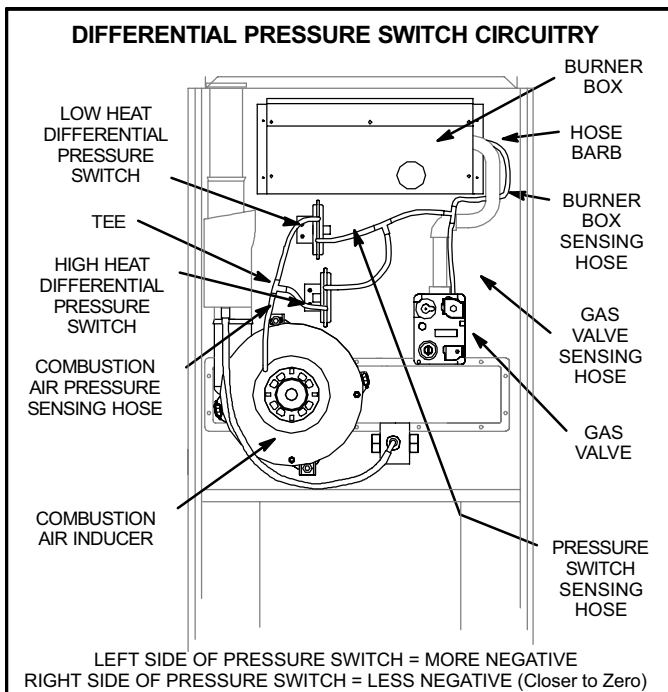

FIGURE 33
- 6 - *White Rodgers 36E Gas Valve* - Switch gas valve lever to **OFF**. See figure 33.
- 2 - Disconnect pressure sensing hose from gas valve and plug hose by covering opening with tape or equivalent. Leave barbed fitting on valve open to atmosphere. See figure 33 for differential pressure switch circuitry.